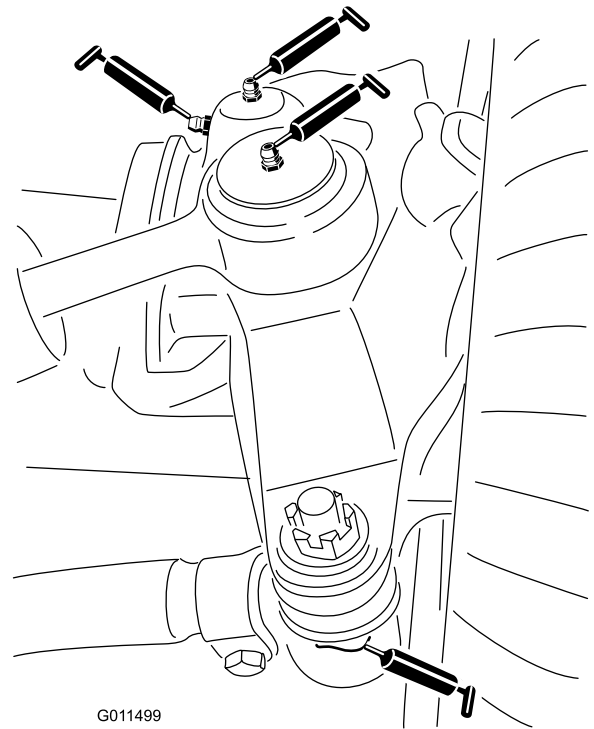

Figure 78
- 2 steering-cylinder-ball joints (Figure 78)
- 2 tie-rod-ball joints (Figure 78)
- 2 king-pin bushings (Figure 78).